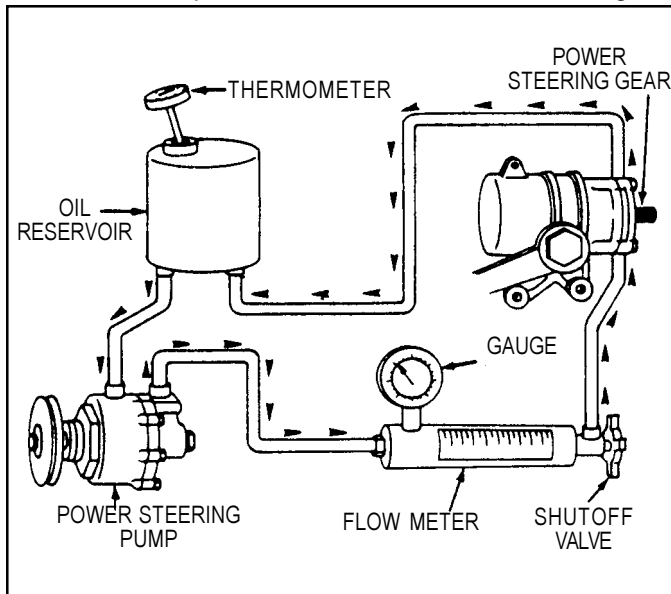

FIGURE 56 - FLOW METER & PRESSURE GAUGE INSTALLATION
2. Install a pressure gauge or gauge and flow meter combination in the pressure (supply) line between the power steering pump and steering gear. *Figure 56. Note: If a shut off valve is part of the gauge or gauge/flow meter, make certain the valve is open.*